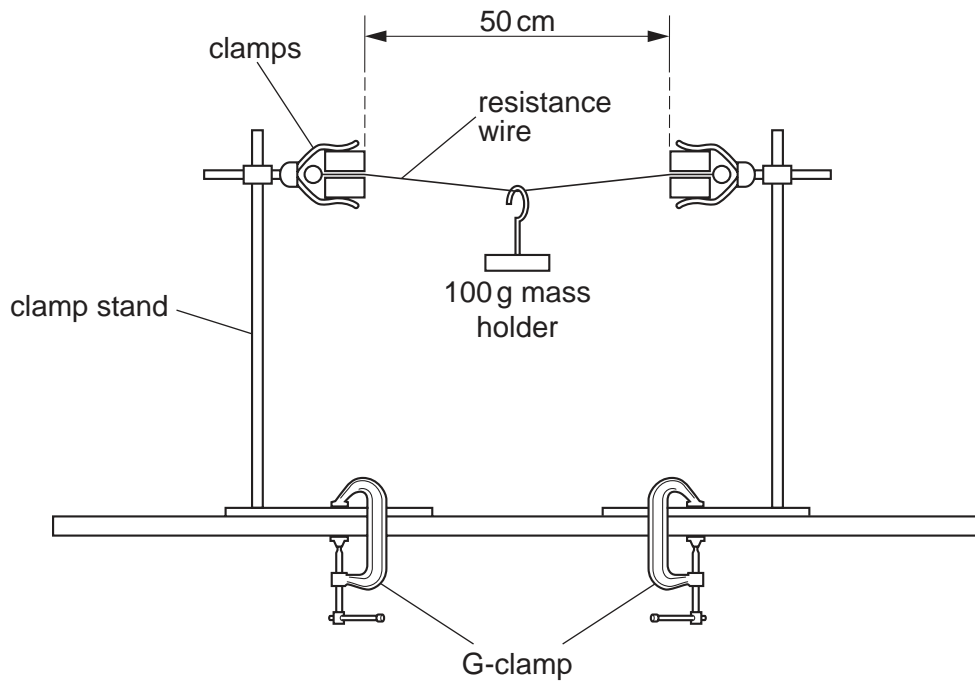

Fig. 2.1
- 2 In this experiment, you will investigate how the deflection at the centre of the loaded resistance wire of the arrangement shown in Fig. 2.1 depends on the current in the wire.